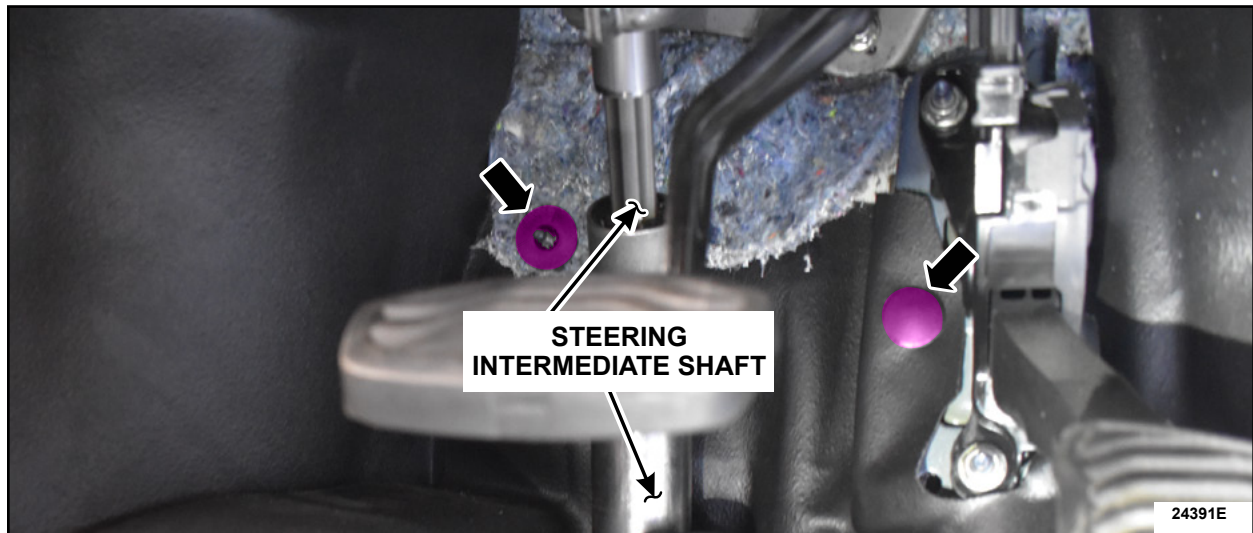

FIGURE 15
23. Install the two (2) retainers holding the rubber flooring to the dash panel. See Figure 15.